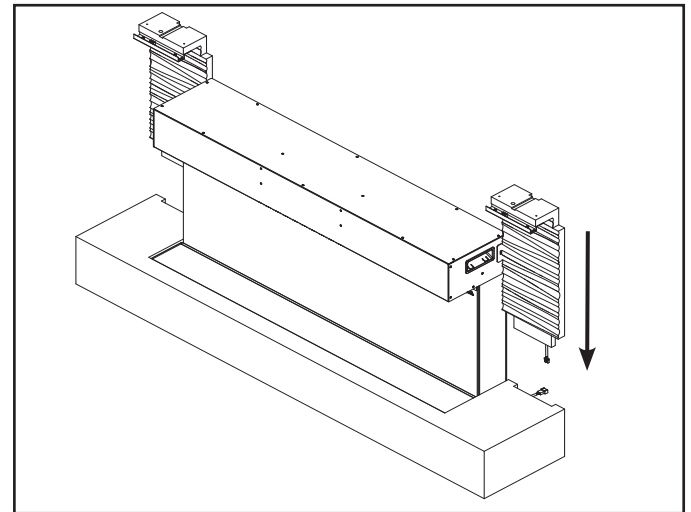

Figure 7
- Attach the side panel wire connector to the connector on the bottom mantel section. Slide the side panels into the recess between the bottom mantel section and the wall. Take care not to pinch the wire between the side panel and the wall. See Figure 7.